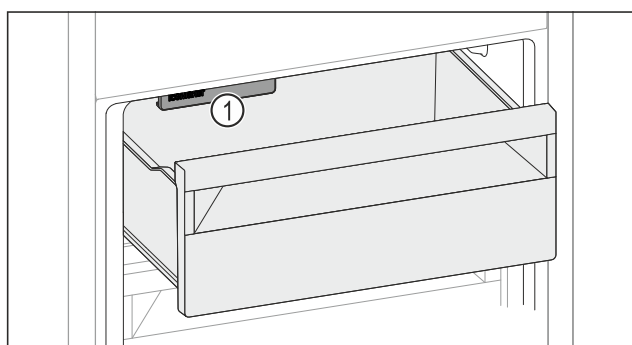

Fig. 56
- ▶ Watch out for the IceMaker Fig. 56 (1).